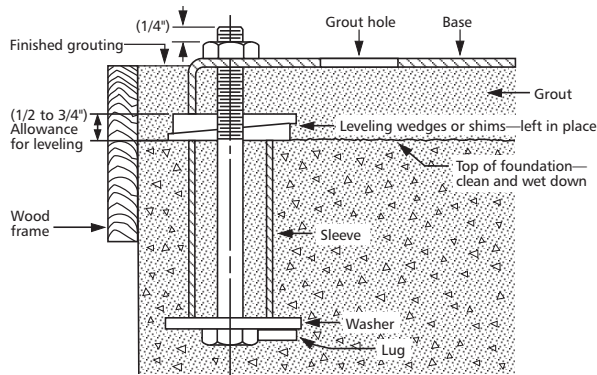

Figure 1
- 2.3.1. It is recommended that the bedplate be grouted to a foundation with solid footing. Refer to Fig. 1.